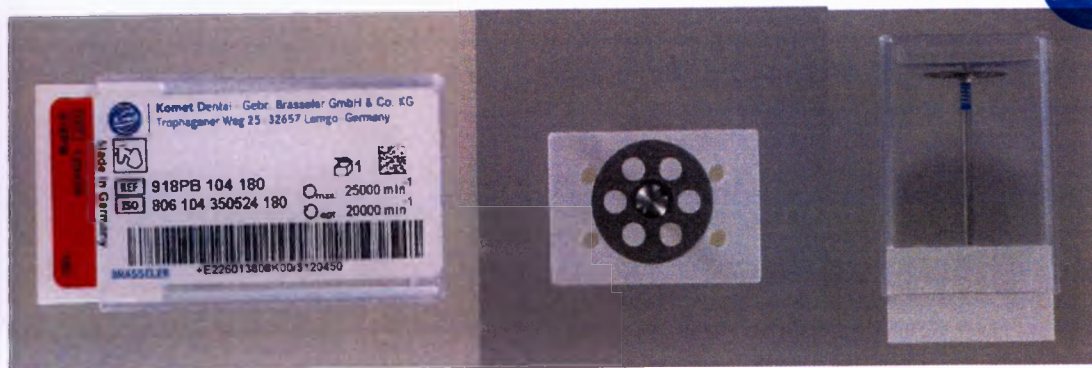

Figure 1
- Perforated, diamond coating on both sides (Figure 1)